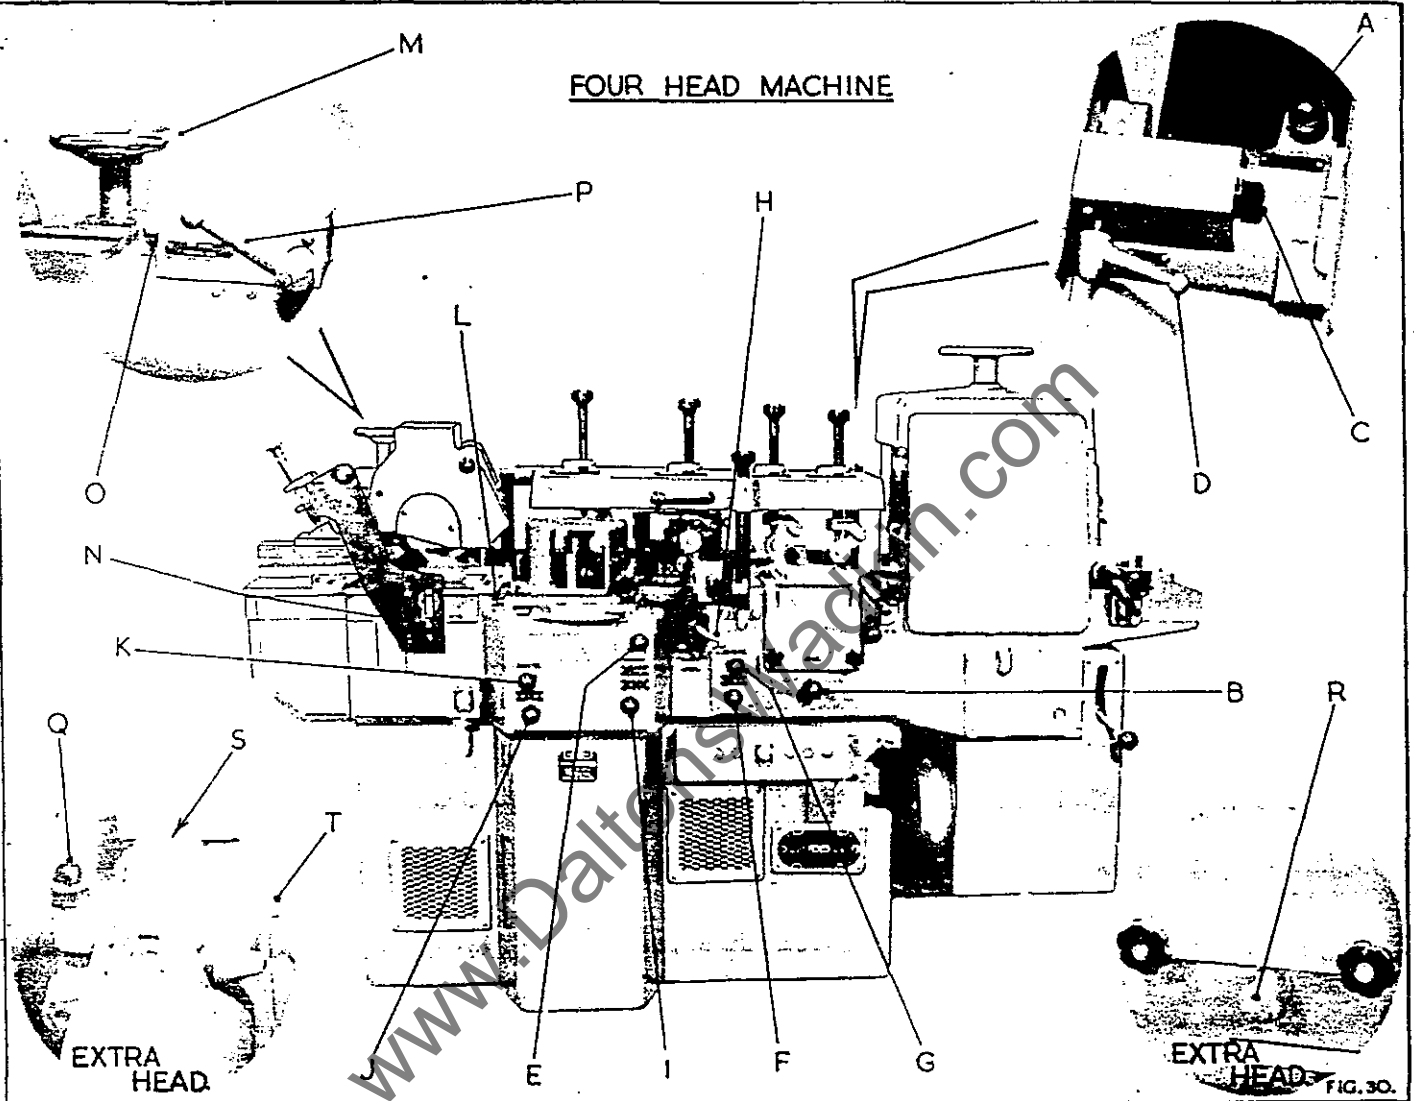

FIG. 30.
1. Work along the machine starting at first bottom head. Position cutterblock vertically by means of handle "A" in Fig.30 until minimum cutting circle lines up with central bedplate. Lock head vertically by handle "B". Lateral movement is made through handle "C" which in turn is locked by handle "D".